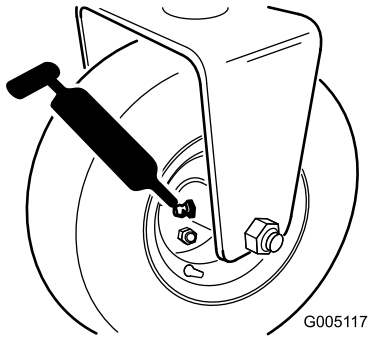

Figure 29
- Rear-roller-hub assembly or, if equipped with a 3-wheel-drive kit, rear-wheel-roller clutches and external ball bearing (1) (Figure 29)